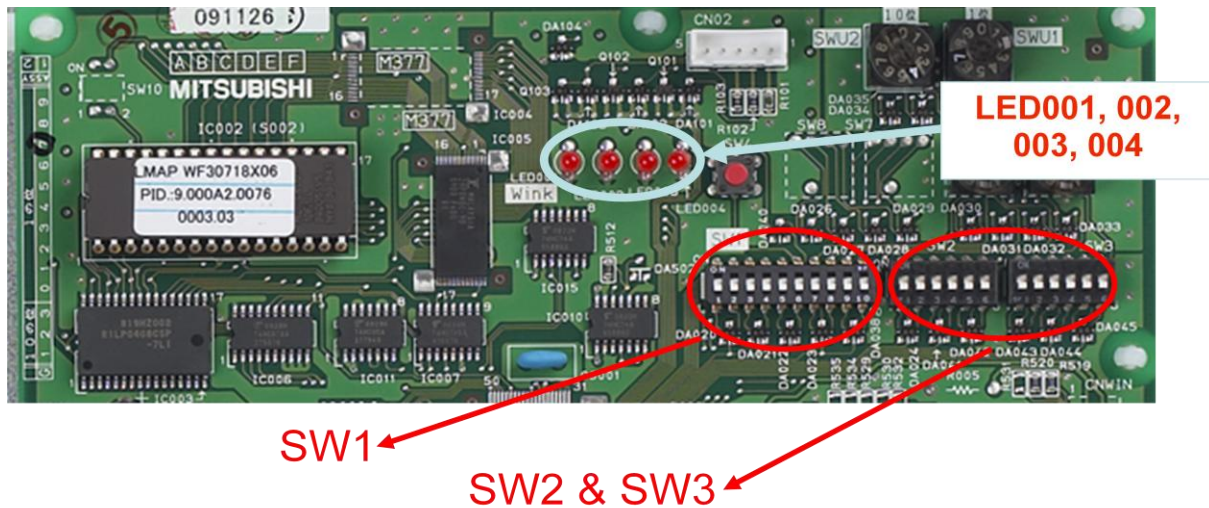

Figure 4. Control Board Dip Switch and LED Location
- a. The LED002 will come on and then go out when the initialization process is complete (see Figure 4 for the LED location.)